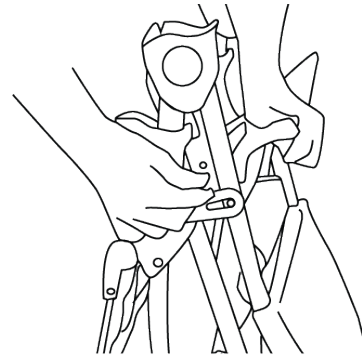

Fig. 17
1. Place the stroller on the ground with all three wheels touching the ground. Release the locking folding latch, which is located on the right side. (Fig. 17)